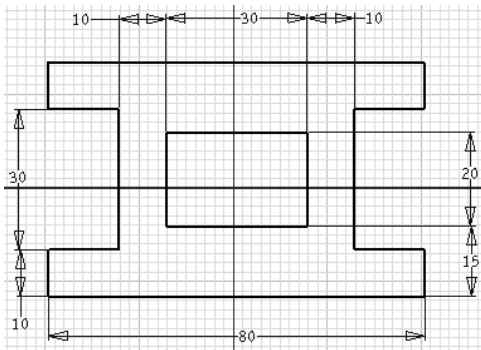

Figure 3-47 Sketch after adding dimensions
- Add the required constraints and dimensions to complete the sketch, refer to Figure 3-47.
You will notice that the length of this line is modified to 80 units. Also, the length of line 7 is also modified because of the **Equal** constraint (refer to Figure 3-47).
The sketch after applying all dimensions and constraints should look similar to the one shown in Figure 3-47.